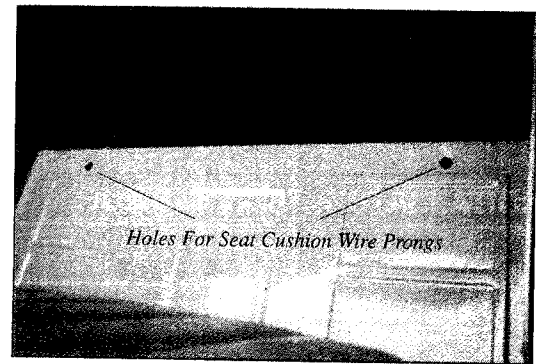

Figure 4-217 Seat Cushion Prongs
25. Install the seat cushion, making certain the prongs are in the two holes provided in the floor pan forming the seat riser (Figure 4-217).